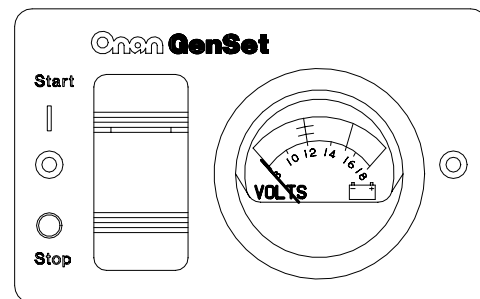

FIGURE 7. REMOTE SWITCH / DC VOLTMETER
- Remote switch / status lamp and DC voltmeter (Figure 7).